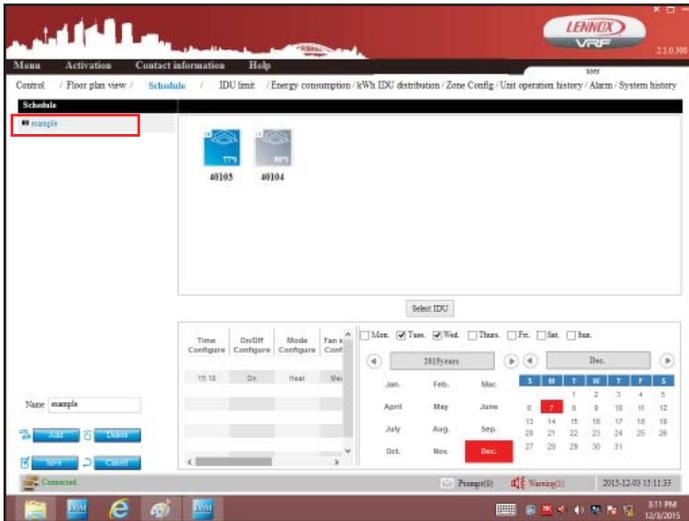

Figure 32. Select Schedule to Edit
1. Tap the schedule to be modified from the list on the left column. See figure 32.